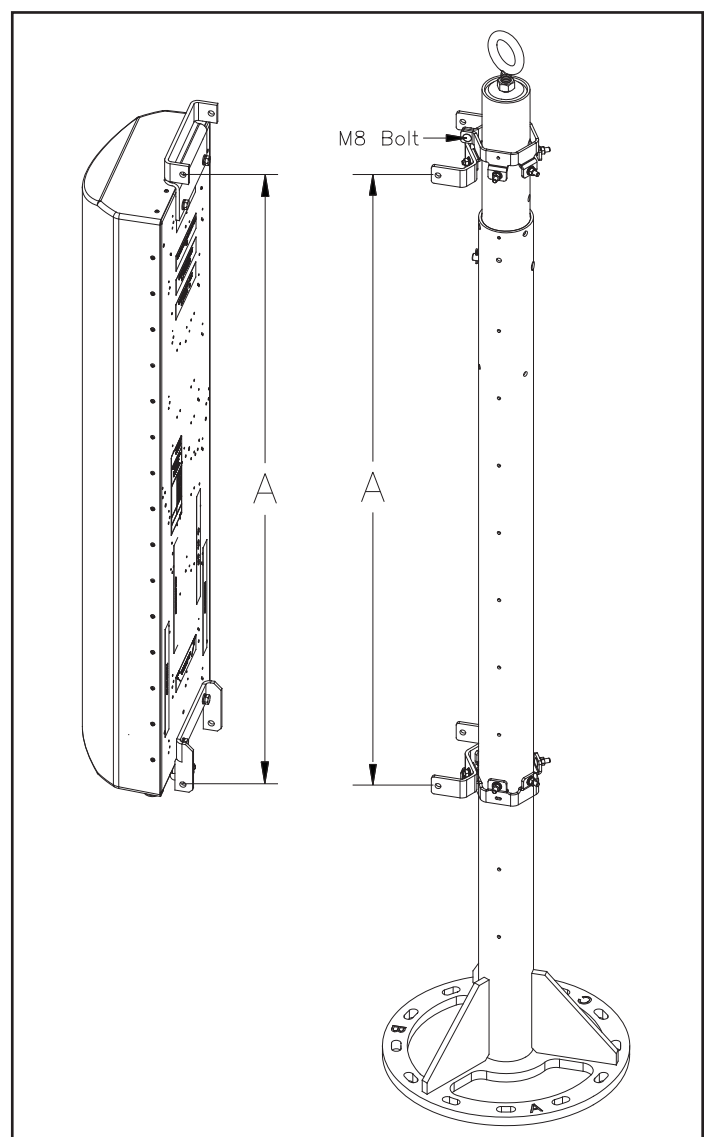

Figure 5. Aligning Mounting Rings on Universal Tree Stand to Mounting Holes on Antenna Mounting Brackets.
8. Measure the center-to-center distance (noted as distance A in Figure 5) for the antenna mounting bracket holes and the pole bracket holes (Figure 5).
9. If a mounting ring needs to be repositioned on the stand in order to line up the mounting holes with the antenna, loosen the M8 x 1.25 x 35mm carriage bolt on the mounting ring and slide the ring to its new position. Tighten the carriage bolt to secure after adjustment is made (Figure 5).